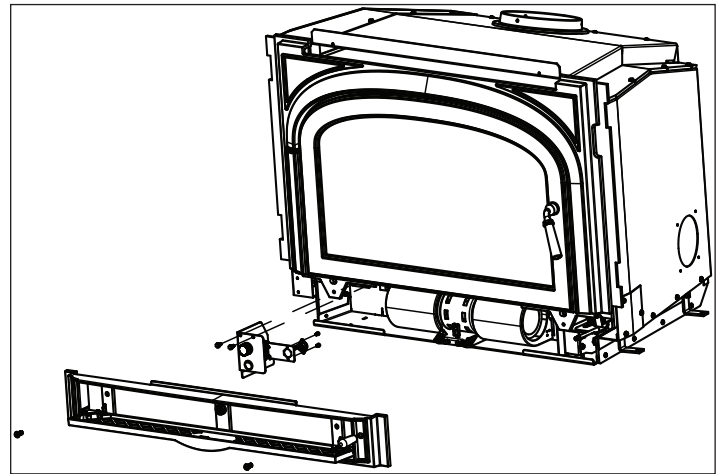

Figure 23.2
4. Locate the snap disc bracket assembly behind the blower controls on the right side under the ash lip (Figure 23.2).